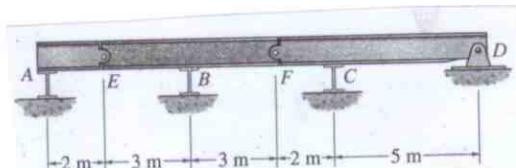

Fig. 1
**Problem 1:** Draw the influence lines for (a) the vertical reaction at C, (b) the moment at B, and (c) the vertical reaction at D. Assume the supports at A, B, and C are rollers. Solve this problem using Muller-Breslau's principle (Fig.1).